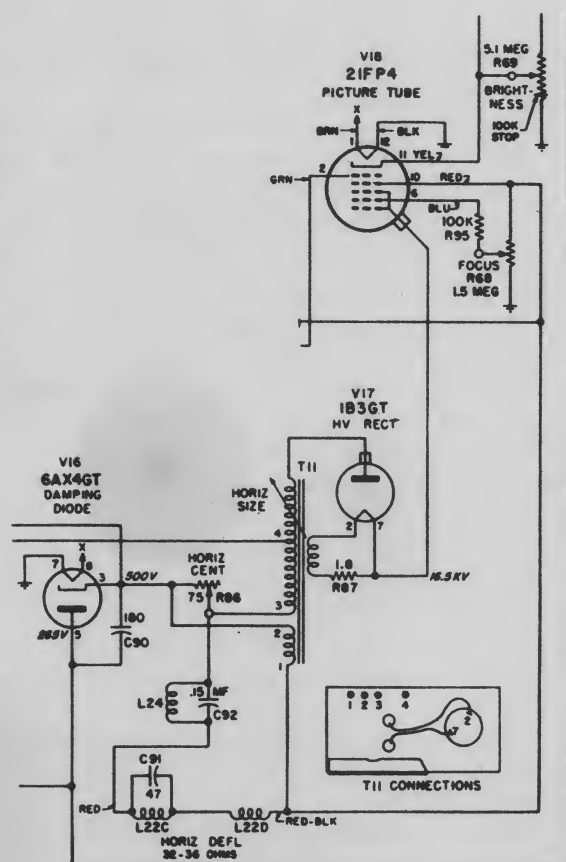

Fig. 6-10. CRT: Motorola TS-292C.
b. *Electrostatically Focused CRT, with Focus Control.* Figure 6-10 shows the circuit diagram of Motorola Chassis TS-292C-00. This receiver also uses an electrostatically focused CRT, 21FP4. However, a focus control, R68, is provided, which permits variation at the focusing anode from zero to boost B+ (500v). Brightness is controlled by R69, which varies cathode voltage from about 25v to 150v. The range of visual cut-off is the same for this tube as for the 21FP4A. High accelerating voltage of 16.5kv is provided.